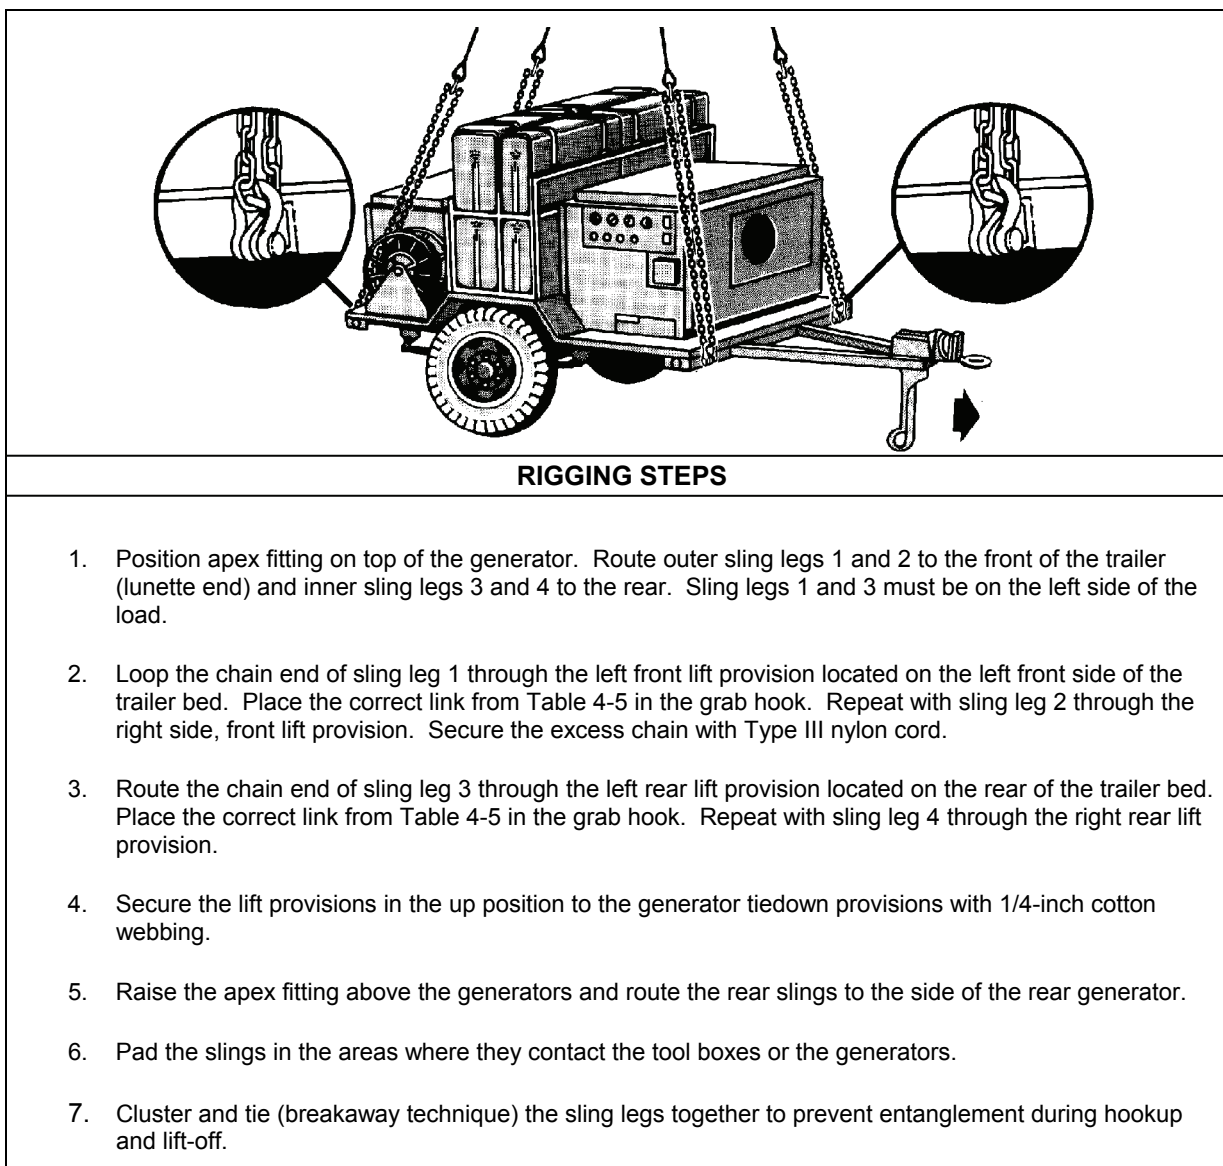

Figure 4-5. M116A2 Trailer-Mounted Power Units, Generators, and Power Plants
- **Rigging.** Rig the load according to the steps in Figure 4-5.